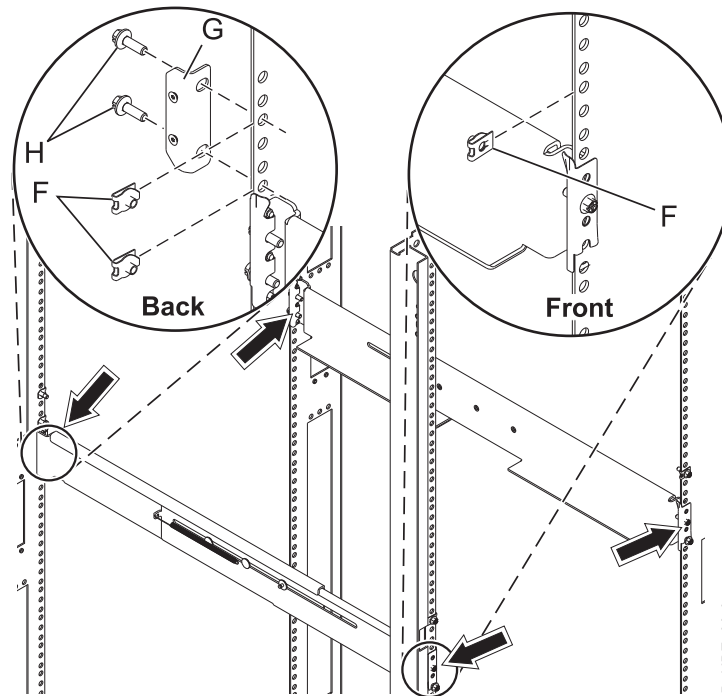

Figure 60. Installing the retention bracket
13. Insert one nut clip (**F**) on the right side of the rack as shown in Figure 60 on page 65.
14. Insert one nut clip (**F**) on the left side of the rack as shown in Figure 60 on page 65.
15. From the back of the rack, insert two nut clips (**F**) on the right side of the rack as shown in Figure 60 on page 65.
16. Use two M5 screws (H) to attach the retention bracket (G) to the rack on the right side.
17. Insert two nut clips (F) on the left side of the rack as shown in Figure 60.
18. Use two M5 screws (H) to attach the retention bracket (G) to the rack on the left side.